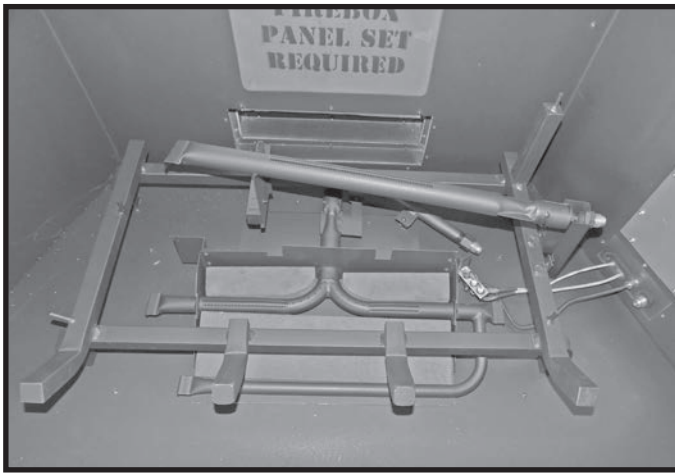
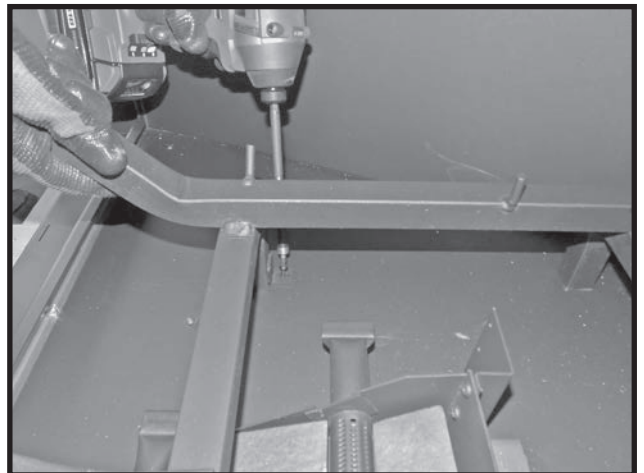
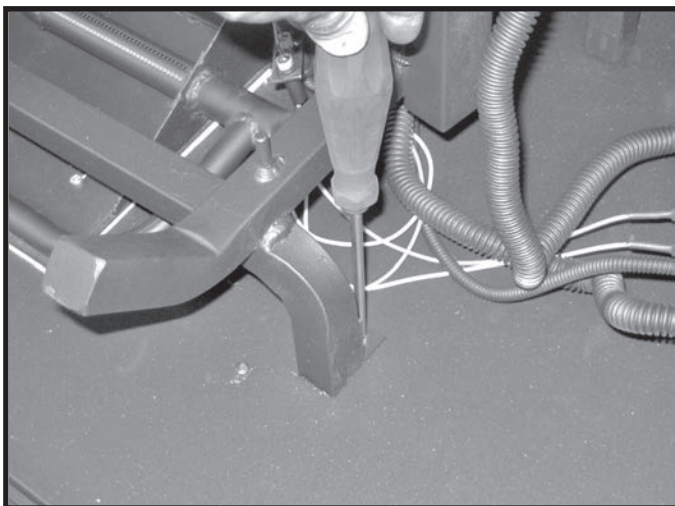

Figure 8: Log grate with upper burner.
Figure 9: Securing left side of grate to firebox floor.
Figure 10: Securing right side of grate to firebox floor.
6. Place the log grate with the attached upper burner onto the firebox floor (Figure 8). Locate two screw holes on the firebox floor at the front of the grate and secure (Figure 9 and Figure 10).